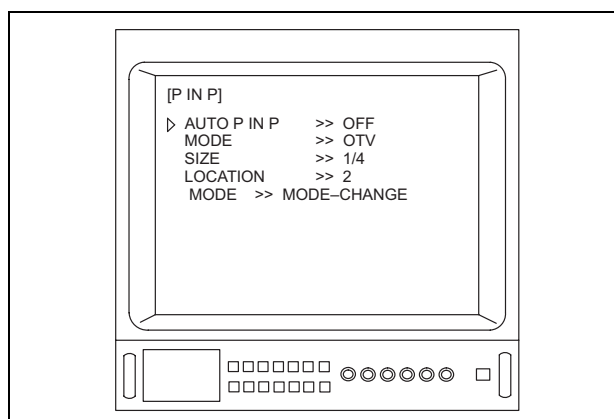

Figure 5.114
6. Depress the menu switches “ \blacktriangleleft ” or “ \blacktriangleright ”, or the “ $\uparrow/\downarrow/\leftarrow/\rightarrow$ ” key on the keyboard to move the arrow “ \blacktriangleright ” to “AUTO P IN P” (see Figure 5.114).
Depending upon the OTV-S7V's settings, the menus shown in Figures 5.114 and/or 5.115 may appear different from those displayed on the video monitor.